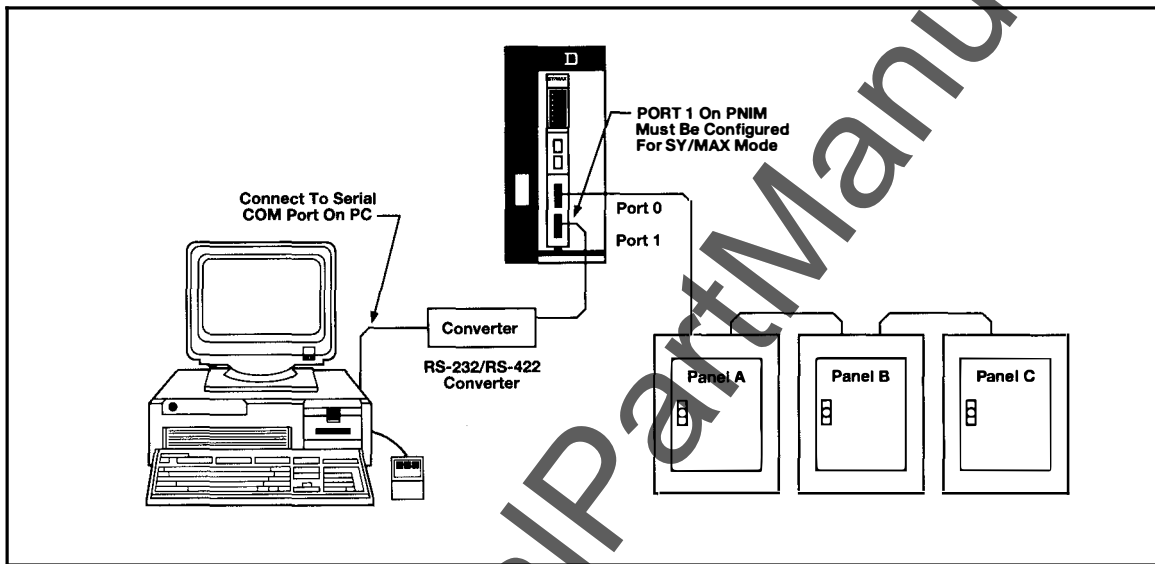

FIGURE 8 - PNIM CONFIGURATION WITH RS-232/RS-422 CONVERTER
1. If the personal computer is connected to an NIM or PNIM, the NIM or PNIM port to which the computer is connected must be configured for the SY/MAX mode. If the personal computer is connected to a PNIM, it must be connected to the PNIM's *bottom* RS-422 port (port 1). The PNIM's *top* RS-422 port cannot be configured for the SY/MAX mode. Figure 8 illustrates these points.